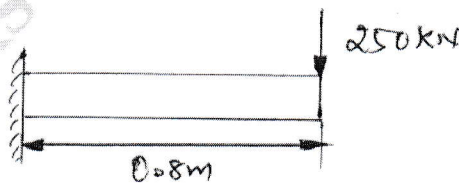

Fig.Q6(a)
- 6 a. A cantilever beam subjected to point load of 250 kN as shown in Fig.Q6(a). Determine the deflection at the free end and the support reactions. Take $E = 200\text{GPa}$, $I = 4 \times 10^6\text{mm}^4$. (10 Marks)